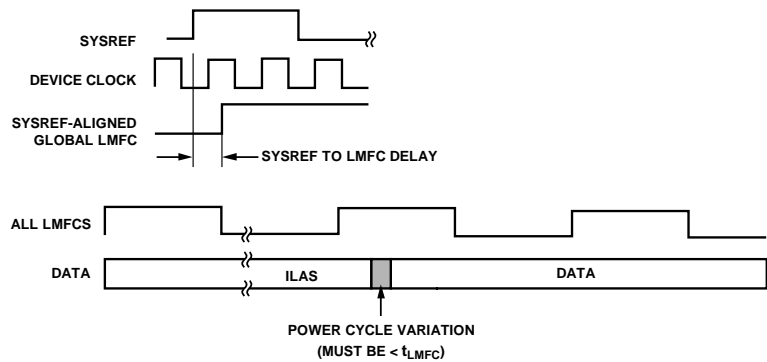

Figure 94. SYSREF and LMFC
The JESD204B protocol organizes data samples into octets, frames and multiframe, as described in the Transport Layer section. The LMFC is synchronous with the beginnings of these multiframe. In Subclass 1 operation, the SYSREF± signal is used to synchronize the LMFCs for each device in a link or across multiple links (within the AD9694, SYSREF± also synchronizes the internal sample dividers); see Figure 94. The JESD204B receiver uses the multiframe boundaries and buffering to achieve consistent latency across lanes (or even multiple
- The total latency variation across all lanes, links and devices must be ≤ 1 LMFC (t_{LMFC}) period (see Figure 94). This total latency includes both variable delays and the variation in fixed delays from lane to lane, link to link, and device to device in the system.